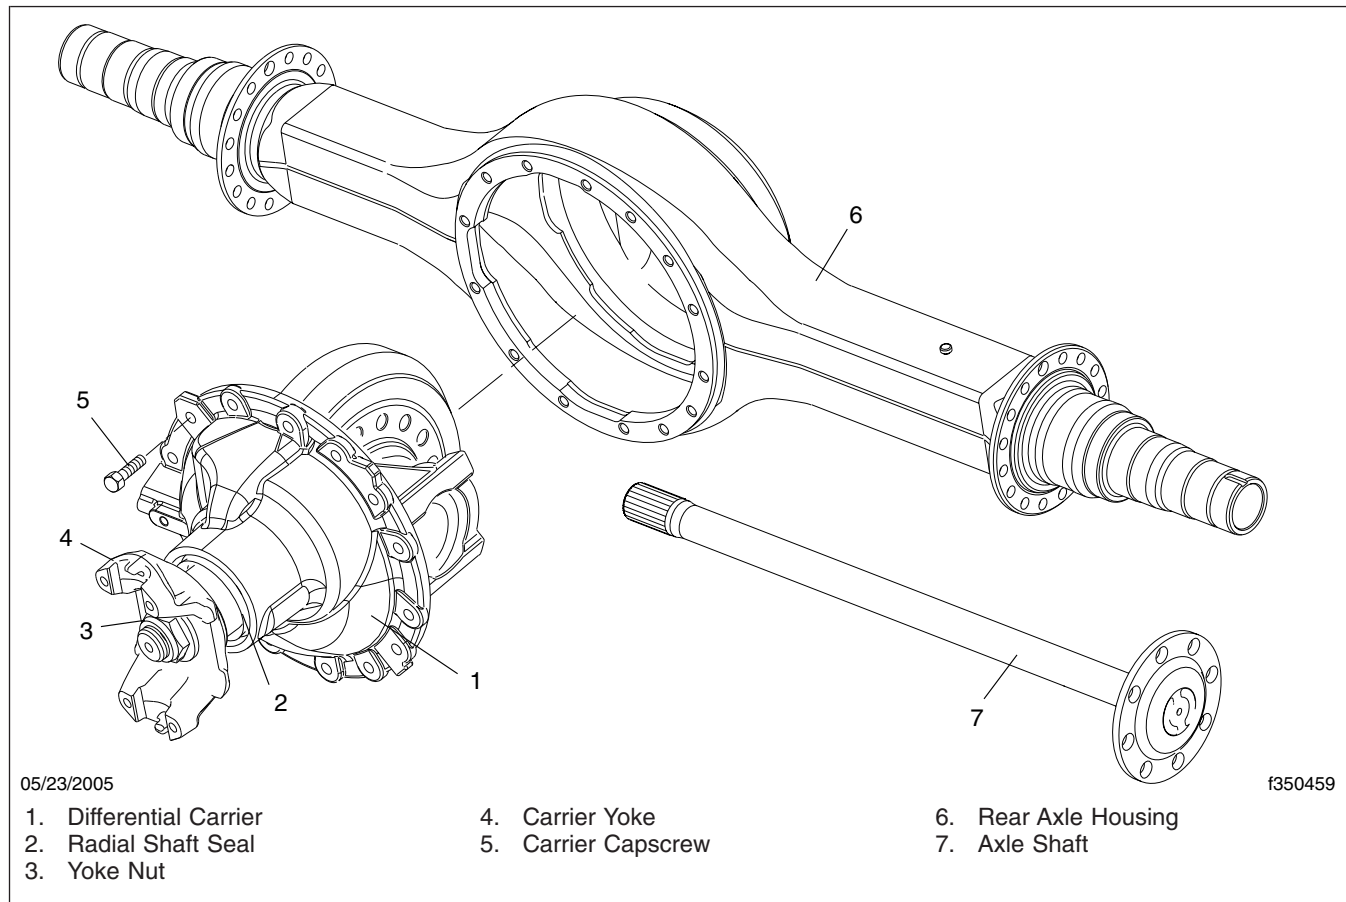

Fig. 1, Single or Rearmost Axle Components
3. Remove the carrier capscrews that hold the differential carrier to the axle housing. See Fig. 1.